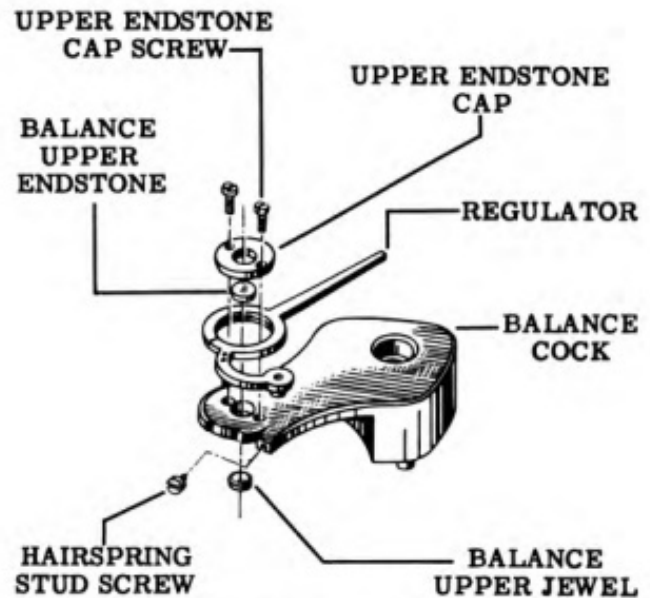

Figure 52
22. Remove the balance upper endstone cap from the balance cock by unscrewing the two cap screws. See Fig. 52. Peg out the balance hole jewel and check it for cracks, breakage or possible wear. Check the endstone. See "Special Operations" for details if it is necessary to replace the balance hole jewel. Replace the endstone cap and mount it in position with its two screws.